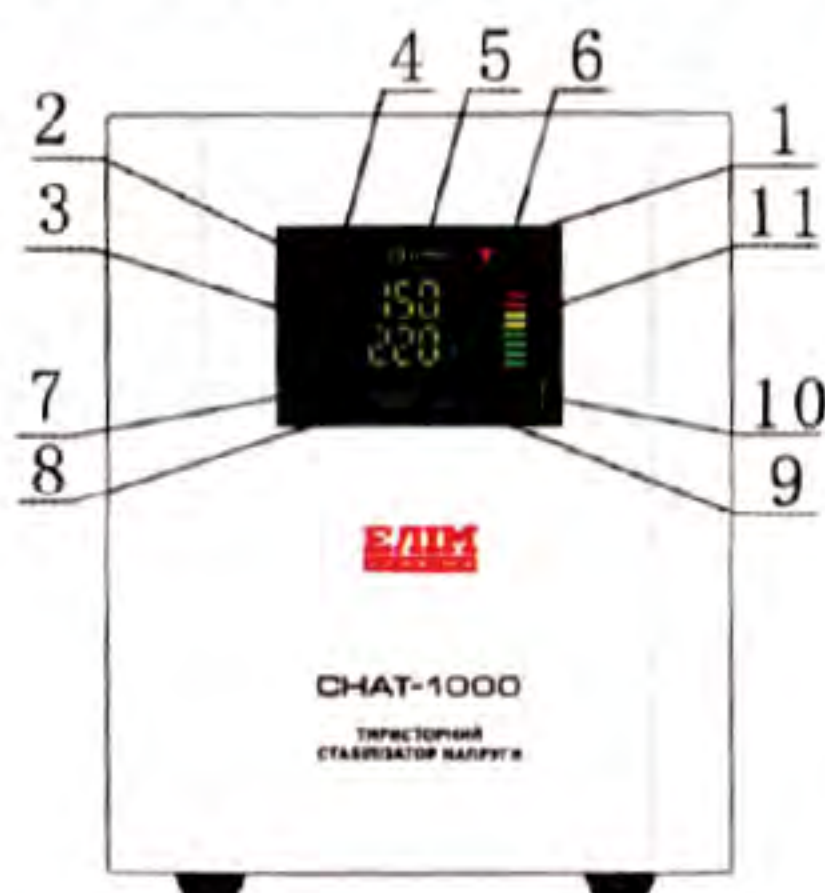

Figure 1: Front panel
4.1 The appearance of the CHAT contactless AC voltage stabilizer is shown in Figure 1.